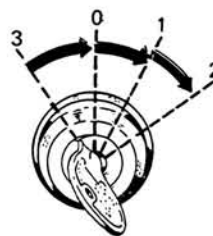

Fig. 10 Starter switch key
- 4 Turn the starter switch key (see Fig. 10) clockwise to the first position and check that the warning lamps for battery charging (red) and oil pressure (yellow) light up.
- 5 Press in the starter switch key (see Fig. 10) and turn it clockwise until the starter motor engages. Hold the key in this position until the engine starts. Then release the key, which will return to neutral position.
- 3 Switch off the current when the engine has stopped by turning the key to the 0-position, see Fig. 10.